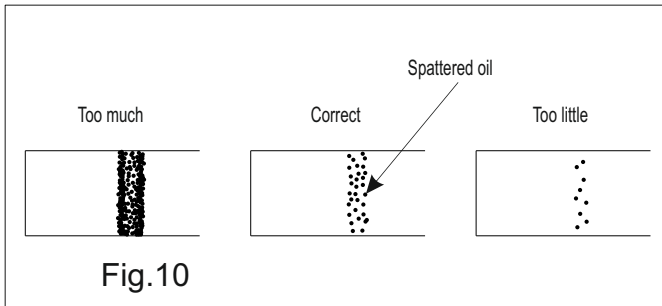

Fig.10
- 1) The guide sample shown in the right-hand figure (see Fig. 10) may be finely adjusted (increased or reduced) as per different sewing processes; however, excessive increase or reduction shall be avoided. Too little oil mass may lead to rotating hook heating, and over much oil mass may lead to contamination of the sewing materials.